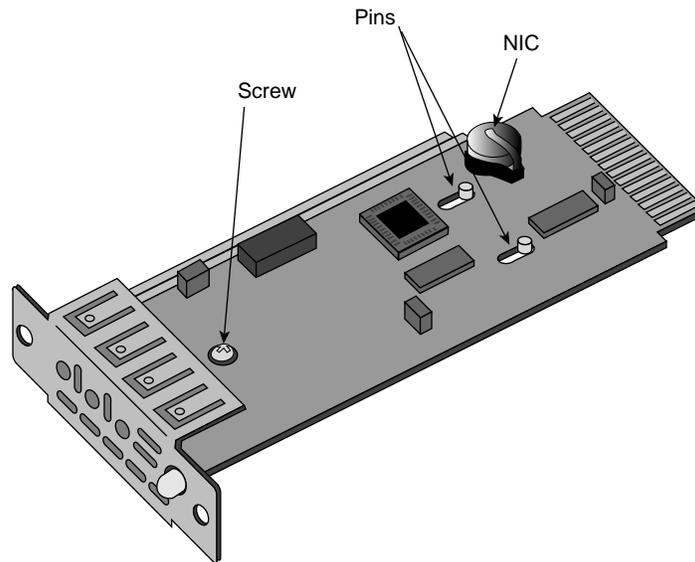

Figure 9-7 Removing the Module System Controller Board From the Carrier
6. Remove the system controller board from its carrier; it is secured by a screw and two pins, as shown in Figure 9-7.
7. Remove the NIC (number in a can) package from the controller board. The NIC is a silver-colored device located at the rear of the controller board. It looks like a very large watch battery. See Figure 9-7.
2. Position the replacement controller board over the pins; grasping the board by its sides, slide it so that the pins lock, making sure that the LED and button go through the proper holes. Screw in the reserved screw, as shown in Figure 9-7.